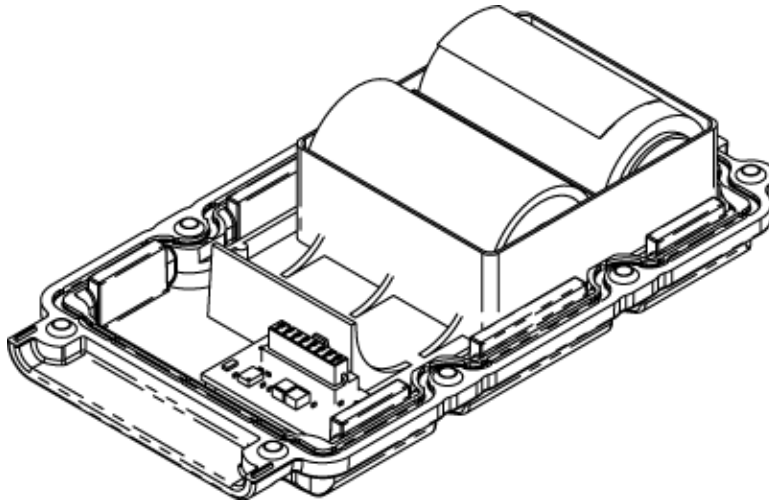

Figure 4 Battery Pack Assembly
- 4) The battery pack for the ARTEX ELT 1000 consists of two "D" size Lithium Sulfur Dioxide cells (see Figure 4).